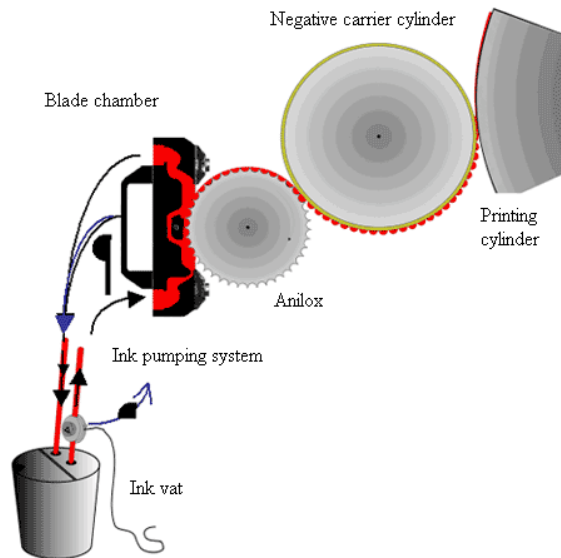

Fig. 7: System of printing by flexography.
**Flexography** is also a system of **raised** printing in which the printer surface is made of a polymer, instead of metal as in typography. It is used a lot in self-adhesive reels. In this case, the ink passes from the ink holder to the printer surface via a cylinder known as **anilox** (fig. 7). Printing is always on reels with the exception of corrugated cardboard which is printed on flexographic machines in sheets.